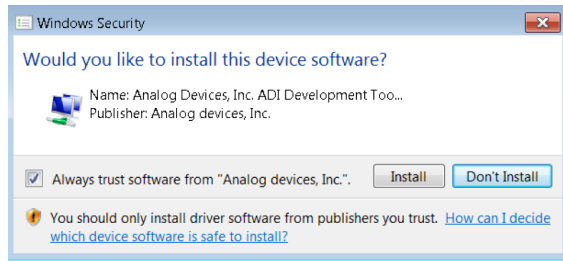
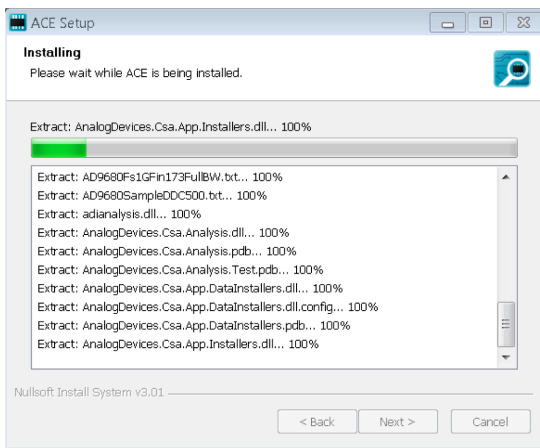

Figure 7. Windows Security Window
Figure 8. Installation in Progress
8. The **Windows Security** window appears. Click **Install** (see Figure 7). Figure 8 shows the installation in progress. No action is required.